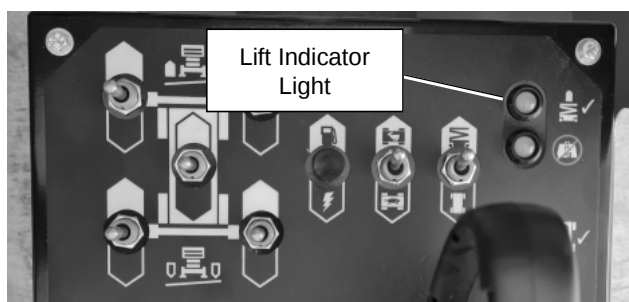

Figure 8.7 – Stabiliser Manual Switches
- ✧ Lower the appropriate stabilisers just enough to center the bubbles (see figure 8.6). When the lift indicator light (see figure 8.7) comes on, the platform can be safely raised.